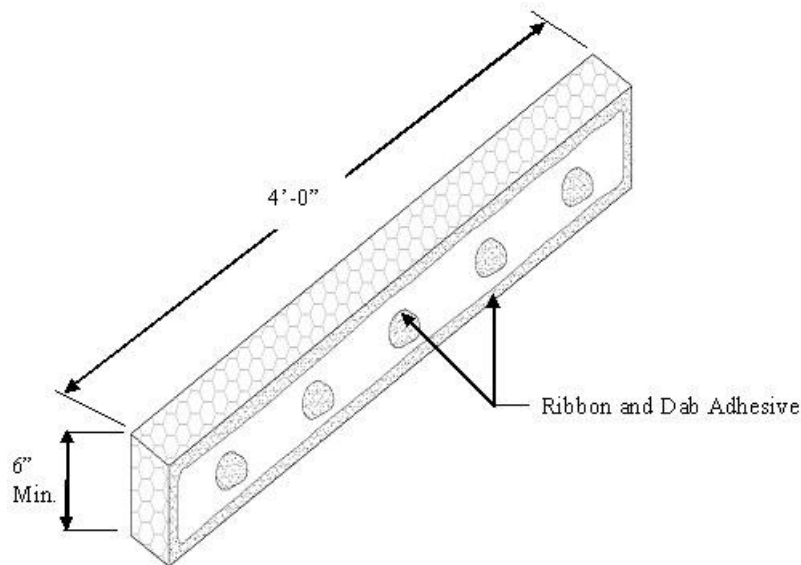

Fig. 20
7. Tops of walls, sills of continuous windows and other horizontal system terminations are terminated using 6 in or 12 in x 48 in (152 mm or 305 mm x 1.2 m) Closure Blocks. These are adhered to the substrate using a ribbon and dab adhesive pattern as shown in the Figure 20.